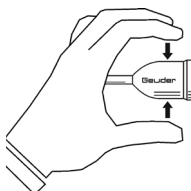

Abb. 2a
- Grasp the infusion sleeve according to figures 2a and screw it off of the ultrasonic tip or the aspiration tube.